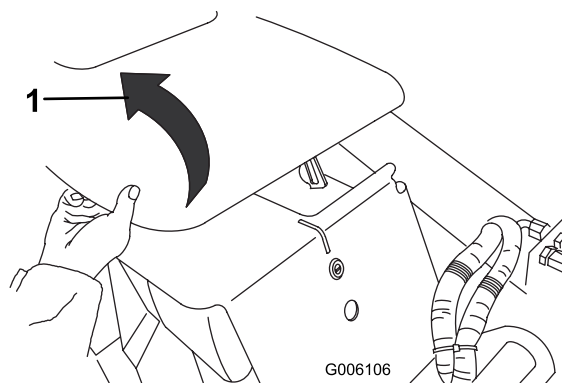

Figure 21
2. Swing the hood up (Figure 21).